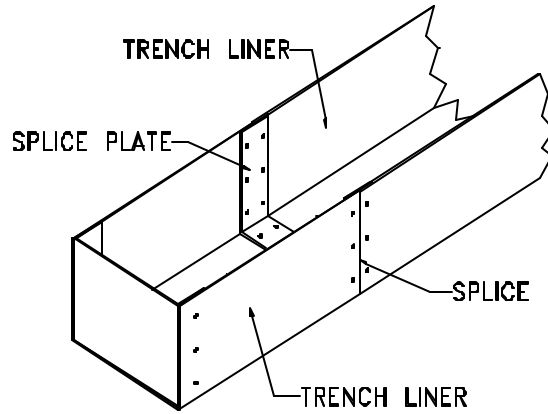

Figure 19
- STEP 8.** Spot weld or rivet the free end of the splice plate to the mating section of the trench liner, ensuring that the mating sections of the trench liner remain as tightly abutted together as possible (see Figure 19).